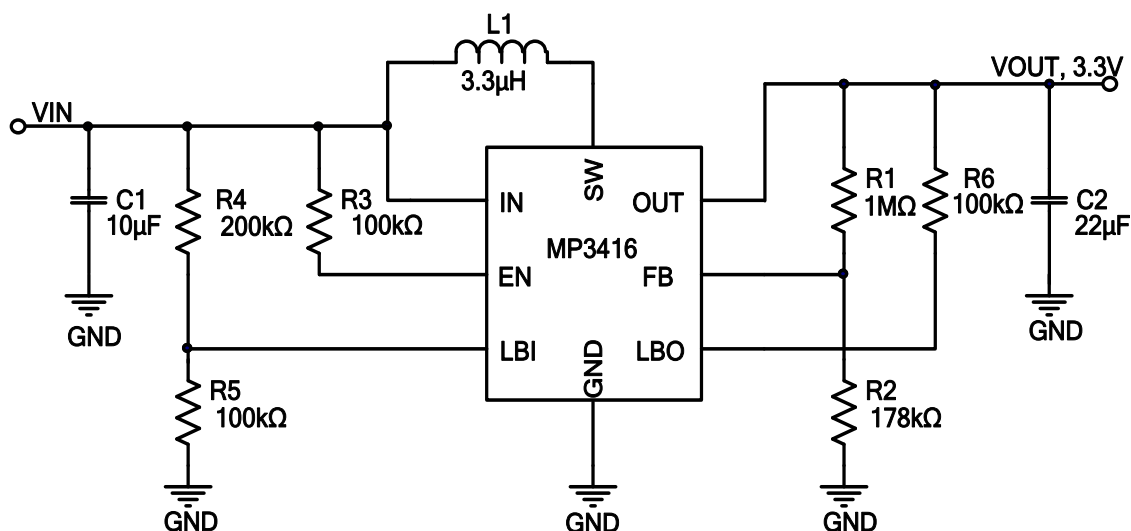

Figure 5: Typical Schematic for 3.3V Output
- 6) Tested under a 0.79A switching current limit. The test schematic is the same as Figure 5 when V_{OUT} is 3.3V and the same as Figure 6 when V_{OUT} is 5V.
The typical application circuit for V_{OUT} = 3.3V in Figure 5 shows the detailed application schematic and is the basis for the typical performance waveforms. For more detailed device applications, please refer to the related evaluation board datasheets.